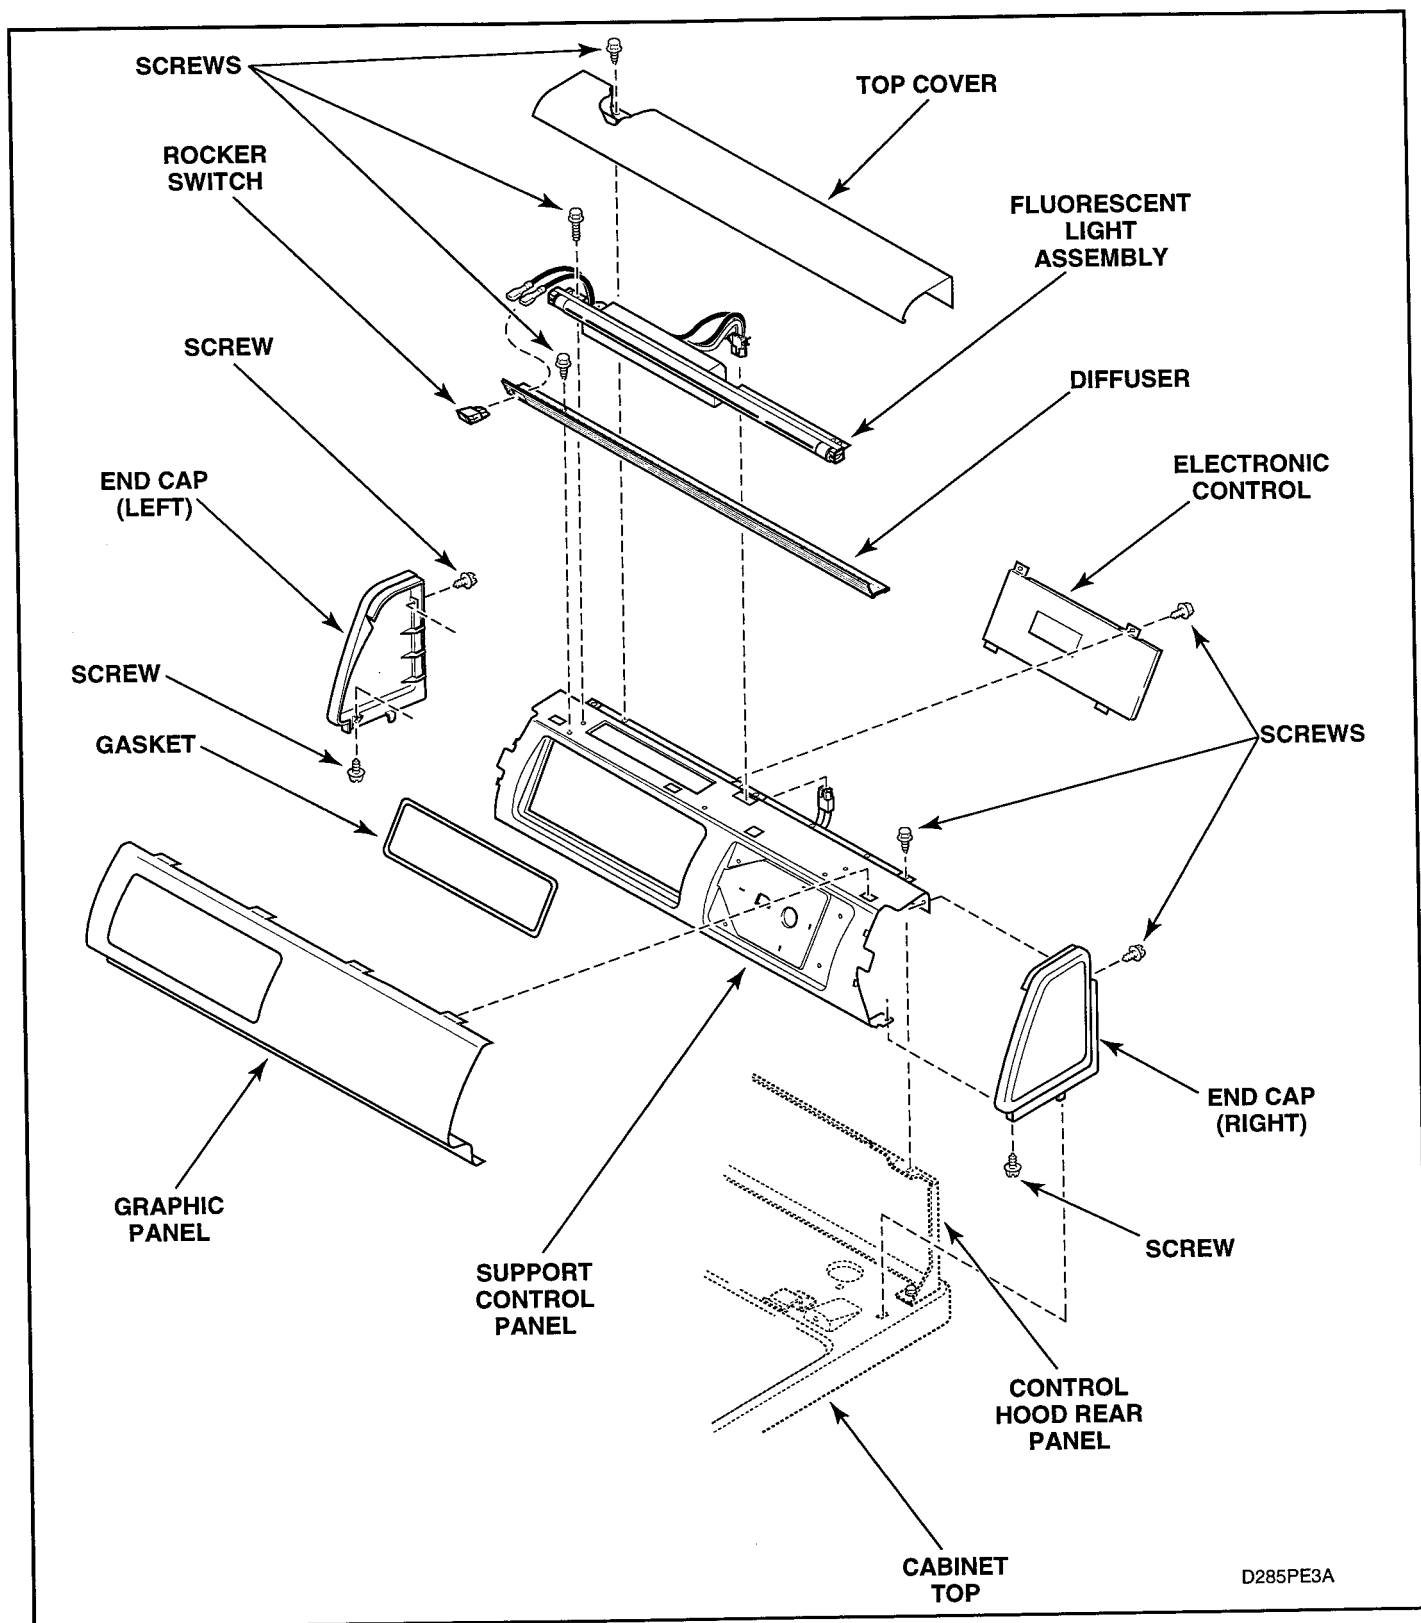

Figure 5-3
2. FLUORESCENT LIGHT ASSEMBLY (Models containing fluorescent light only) (Figure 5-3)
(See figure 5-3 for control removal)